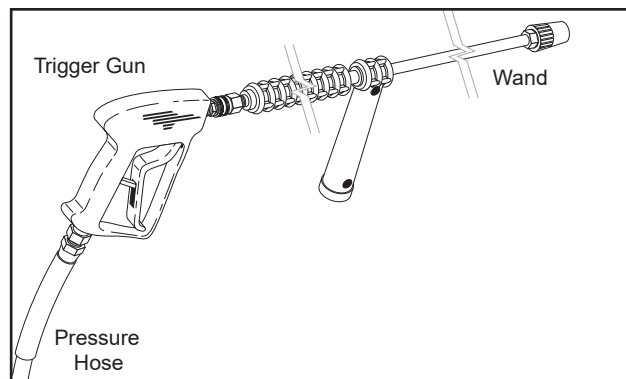

Figure 3 - Trigger Gun/Wand Assembly
3. Assemble wand components as shown in Figure 3.